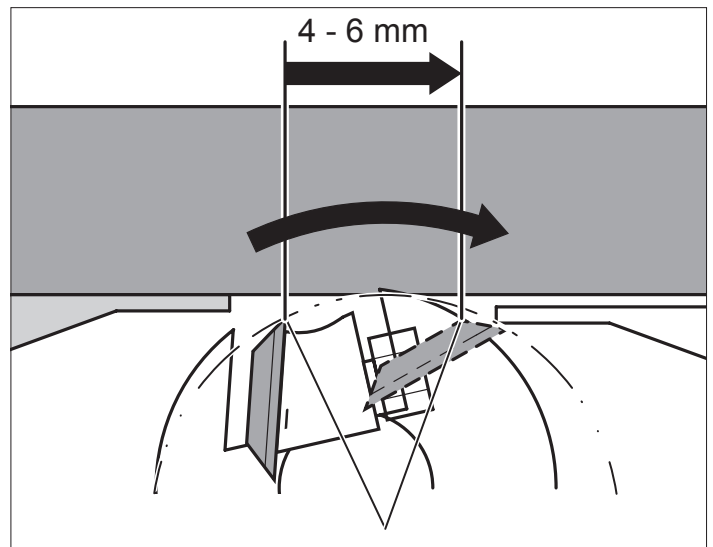

FIG. 19
- The cutter knives are set correctly if the straight edge is moved forward 4 to 6 mm by the turning cutterblock. This check must be performed at both ends of the cutterblock. (Fig.19)